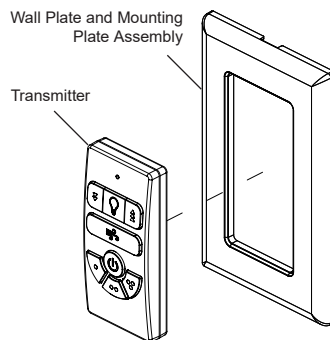

Fig. 17
Step 1. Remove the transmitter from the wall plate and mounting plate assembly. (Fig. 17)